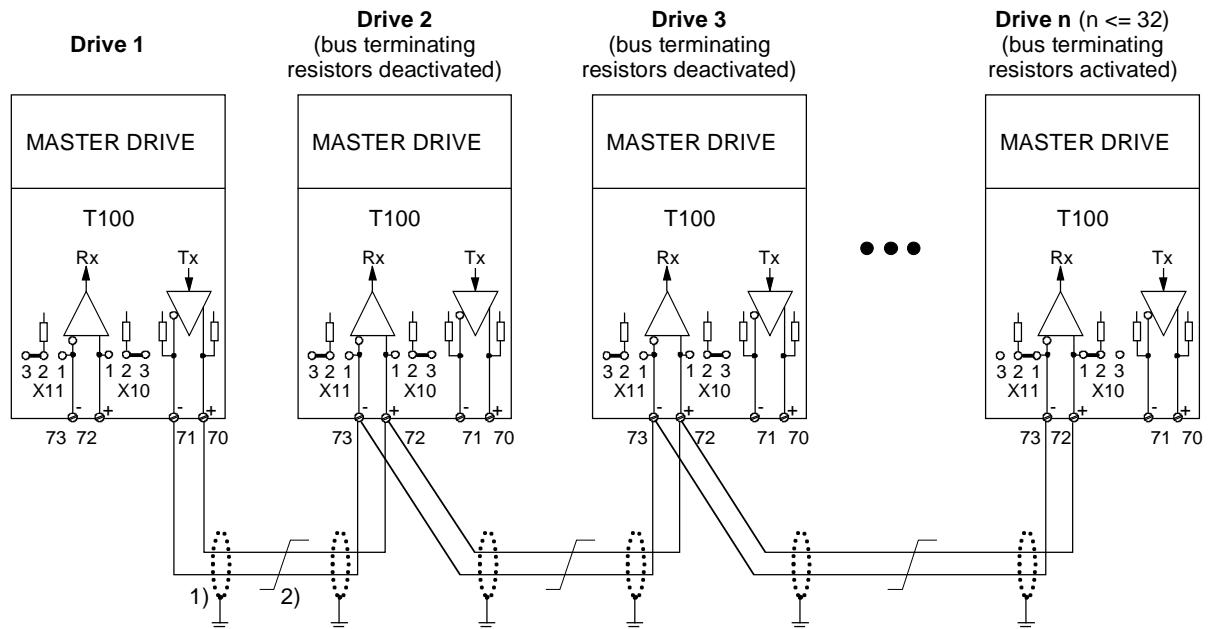

Fig. 3.6.3: Peer connection type "Parallel"
- In a **parallel connection** (Fig. 3.6.3), a total of 31 drives can be connected in parallel to the transmit cable of one drive. All these drives receive their (identical) data sets simultaneously. The signal delay time of approximately 1 to 10 msec (see table above) occurs only once with the parallel connection.